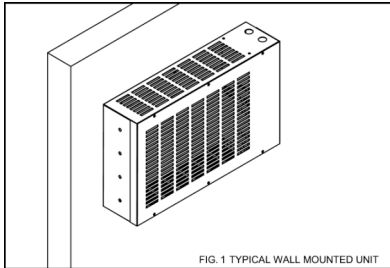
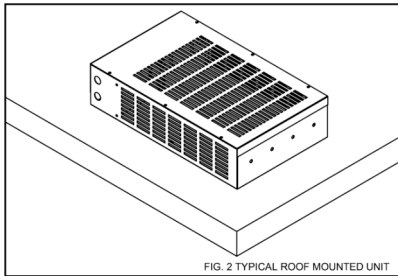

FIG. 1 TYPICAL WALL MOUNTED UNIT
FIG. 2 TYPICAL ROOF MOUNTED UNIT
- Remove the screws that attach the ventilated cover to the unit. Most units have four screws; larger units have six or more screws. Units up to 28" wide may be wall mounted as shown in FIGURE 1, or roof mounted as shown in FIGURE 2.